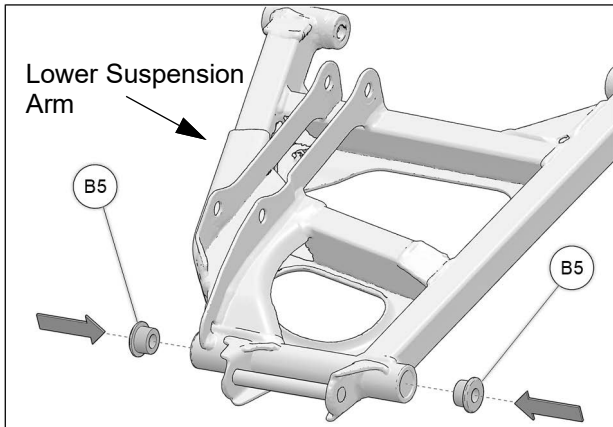

Fig. 4
4. Insert step bushings (B5) at both ends of suspension arm tube, as shown below. See Fig. 4